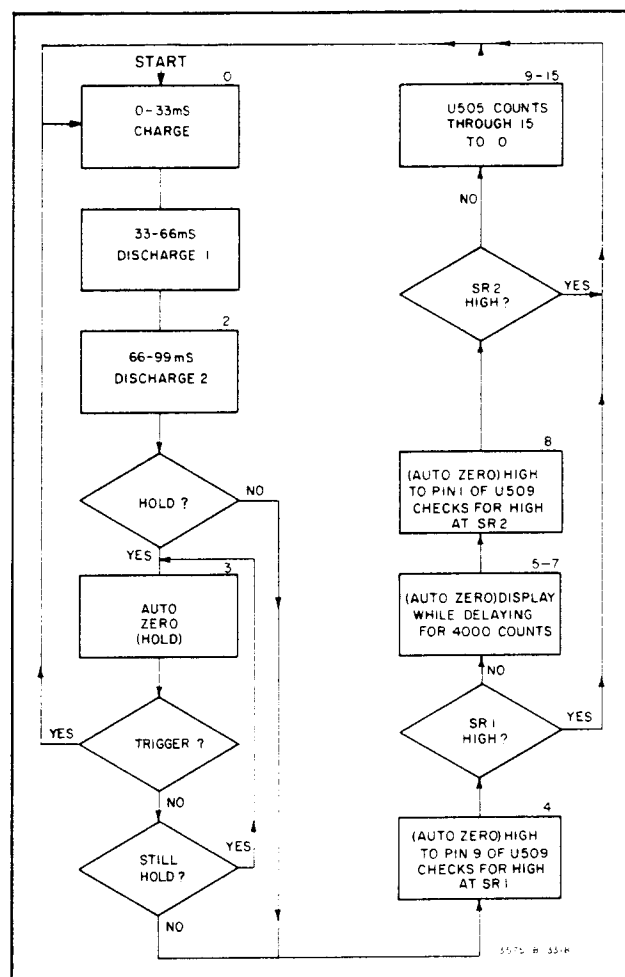

Figure 4-14. Digital Controller Flow Chart.
4-89. Figure 4-14 is a flow diagram showing the instruction sequence for the Digital Controller. Remember that each state of the controller lasts for 1,000 clock pulses or 33 msec. At the beginning of a measurement, the instruction counter is in State 0 and the Charge instruction is given. After 1,000 clock pulses, the counter is incremented to State 1 (Discharge 1) and, after 2,000 clock pulses, the counter is incremented to State 2 (Discharge 2). Note that the (L) Discharge 2 line is connected to one input of U208B which functions as a negative OR gate. When either input to U208B is low, the output is low making the Load input to the instruction counter low. Thus, in State 2 the next state of the instruction counter is determined by the state of the "Hold" input line. If the Hold line is low, the counter will go to State 3 (Hold) after the next clock pulse. If the Hold line is high, the counter will jump to State 4. First, consider the case where the Hold line is low and the counter goes to State 3. The Hold output (State 3) of U506 is applied to the remaining input of U208B making the Load input to the instruction counter low. This again means that the next state of the instruction counter is determined by the condition of the Hold input line. As long as the Hold input line is held low, the instruction counter will remain in State 3 and measurements will be inhibited until an external trigger is applied. When ground is applied to the external "Trigger" line, a trigger pulse is generated causing the "Q" output of the trigger flip-flop (U213A) to go high. This, in turn, causes the output of NAND gate U509B to go low, applying a low to the Clear input of the instruction counter. The Clear input line overrides the other input lines and the instruction counter will reset to State 0 on the next clock pulse. If the Hold line remains low, a new reading will be taken and the instruction counter will again stop when it reaches State 3. If the Hold line is high, the instruction counter will jump from State 2 to State 4. In State 4, the Digital Controller checks the condition of sample rate select line SR1. If SR1 is high, the instruction counter resets to State 0 on the next clock pulse. If SR1 is low, the instruction counter continues to increment until it reaches State 8. In State 8, the Controller checks the condition of sample rate select line SR2. If SR2 is high, the instruction counter resets to State 0 and begins a new measurement. If SR2 is low, the counter continues to increment to State 15 and then automatically resets to State 0. In the 3575A, SR1 is permanently grounded and SR2 is always high. The measurement cycle, therefore, lasts